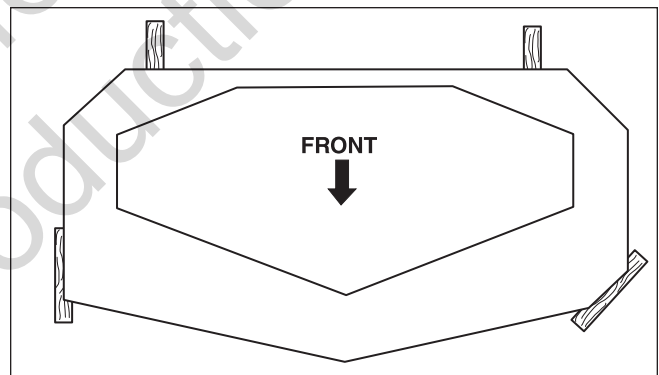

Figure 38. 2 x 4 Locations
6. Block up the mower deck until all hanger chains are slack. Refer to Figure 38.
3. Place 2 x 4 blocks under each corner of the mower deck with the 3-1/2" side being vertical. Place a 1/4" (0,64 cm) thick spacer on top of the rear 2 x 4 blocks. See Figure 38.